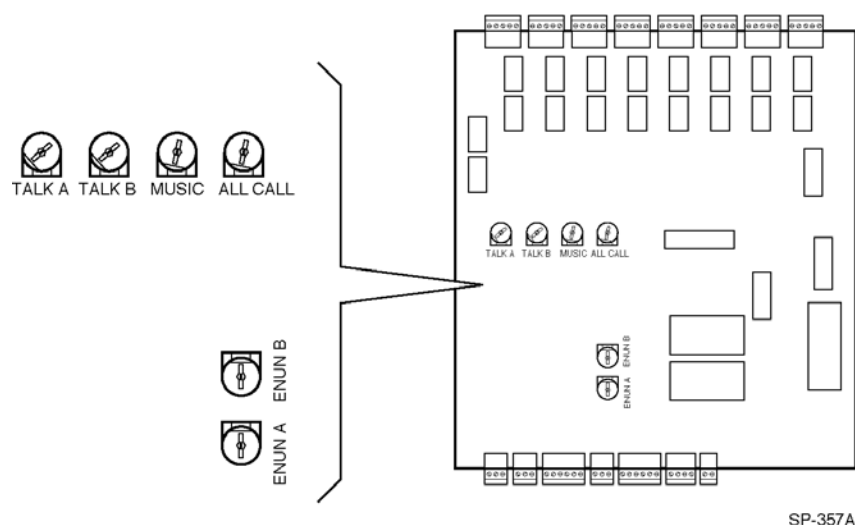

Figure 9. Communications Controller Volume Controls
- Turn clockwise to increase the volume, counter-clockwise to decrease it. (See Figure 9.)
3. If the volume is unsatisfactory, adjust the MUSIC volume control in the Communications Controller. Turn clockwise to increase the volume, counter-clockwise to decrease it. (See Figure 9.)
- ENUN A for Audio Channel A devices. (See Figure 9.)
- ENUN B for Audio Channel B devices. (See Figure 9.)